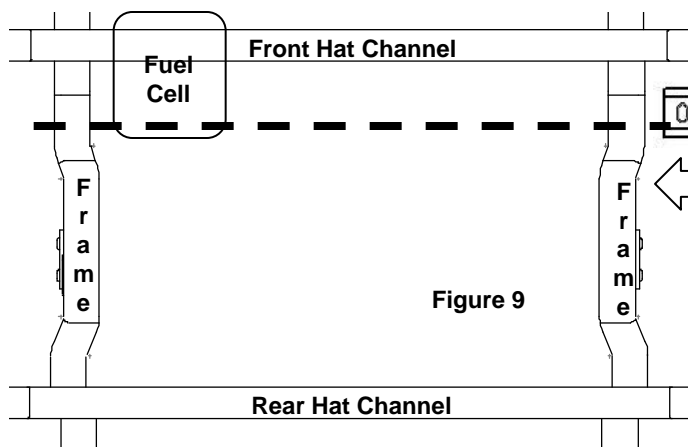

Figure 9
16. Insert rails (#1) as shown in the following steps (Figures 9 through 11). Rails should be inserted flat side up.
Step 16A : Insert the first rail from the passengers side rear wheel well above the frame. Rest the rail on both chassis frame rails (Figure 9).